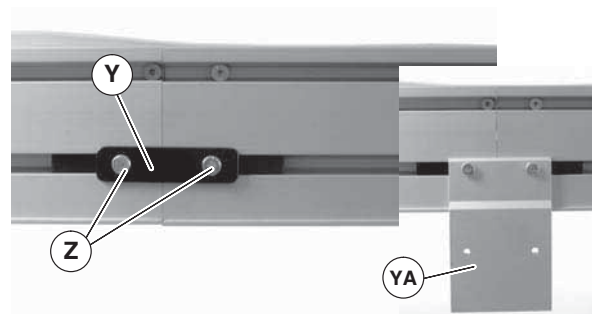

Figure 9
- Slide belt (Figure 9, item R) over assembled conveyor sections (AA).